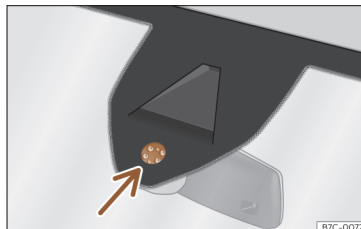

Fig. 93 Rain sensor sensitive surface
Possible causes of faults and mistaken readings on the sensitive surface >>> **Fig. 93** of the rain sensor include:
- Regularly clean the sensitive surface of the rain sensor >>> Fig. 93 (arrow) and check for possible damage to the wiper blades.